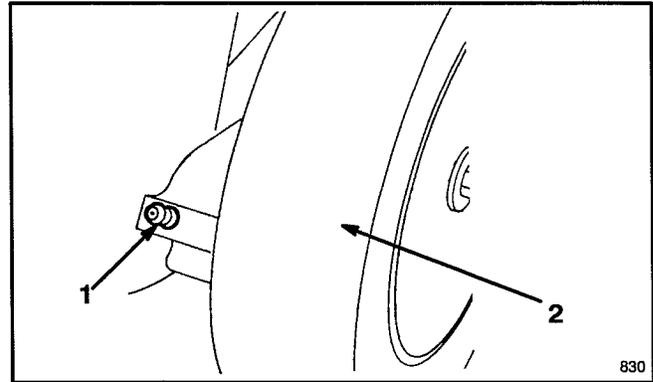

Figure 27
2. Move rear wheel height-of-cut levers to "2" setting. Wipe grease fittings with clean rag (Fig. 27). Install grease gun onto fitting and gently apply two or three pumps of #2 Multi-Purpose Lithium Base Grease.